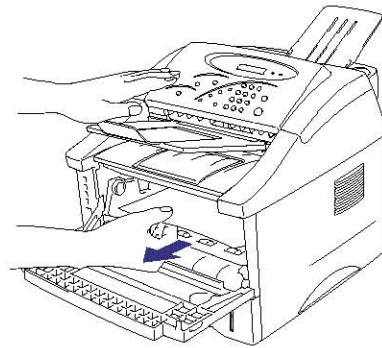

Fig. 7-2
- (3) Open the front cover.
- (4) Remove the drum unit. Pull any jammed paper up and out of the printer. (Fig. 7-2)
- (5) Do not remove the drum unit with additional force at this time if you cannot remove it easily. Instead, pull the edge of the jammed paper from the paper cassette.